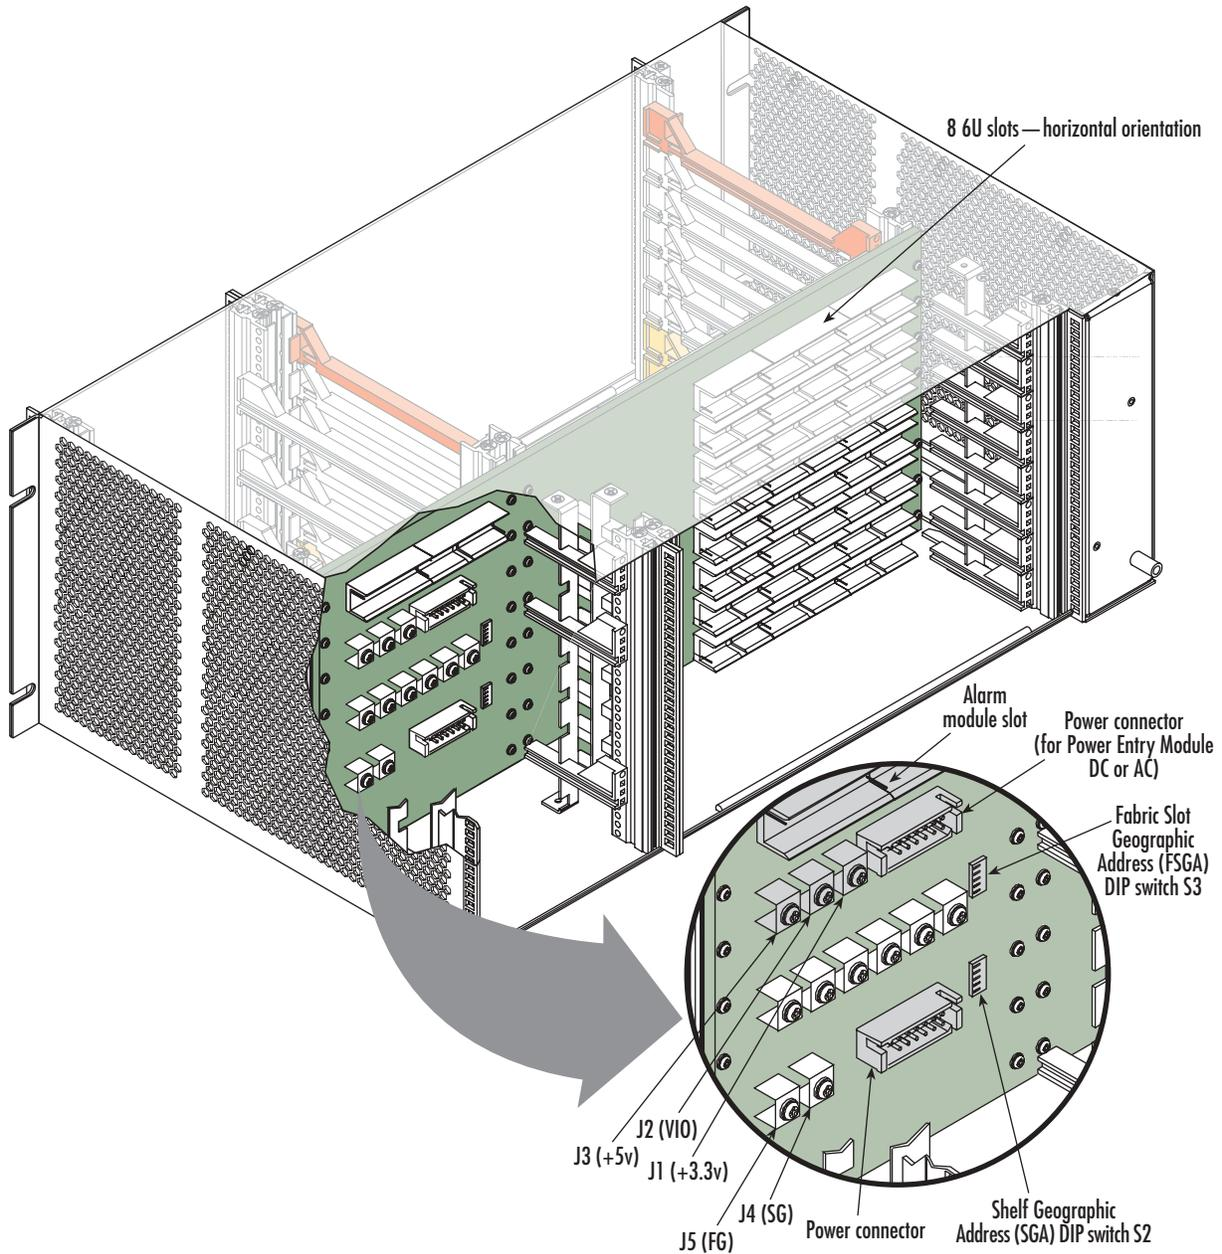

Figure 12. Rear view of chassis showing the midplane/backplane
A rear view of the 4U Model 6476 is shown in figure 12.
There are two headers, J4 and J5, located in the power bay area (see figure 12 on page 31). J4 corresponds to signal ground (SG) and J5 corresponds to frame ground (FG). These two headers provide an option to connect
1. Locate J4 and J5 at the bottom of the power bay area (see figure 12 on page 31).